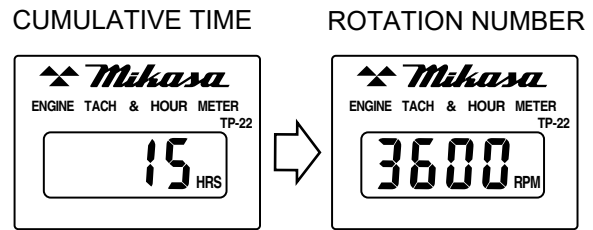

Figure 19. Hour Tachometer (Rotation Number)
5. During operation, the hour tachometer displays "rotation number" (Figure 19).